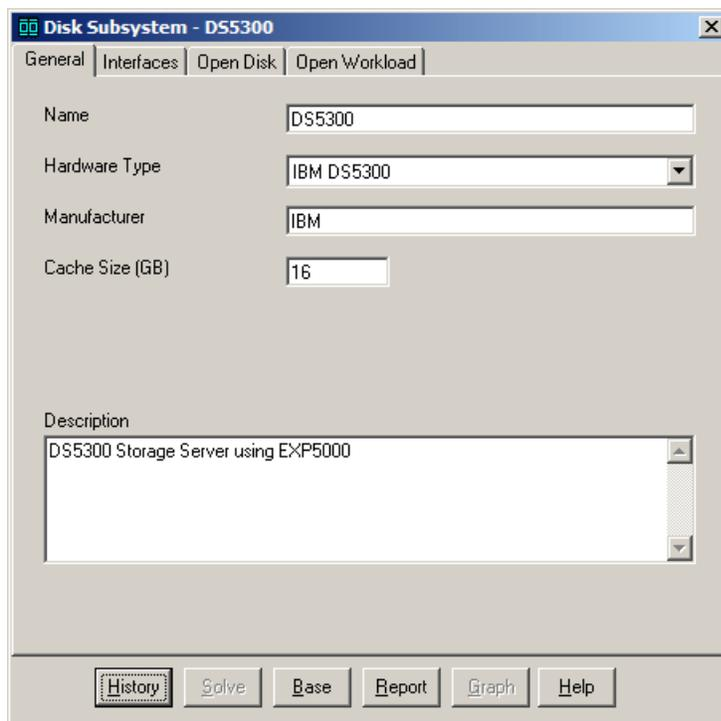

Figure 10-25 Storage subsystem General tab
- ▶ The *General* tab allows you to enter storage subsystem level configuration data, such as the brand and type of subsystem and cache size. You can rename the storage subsystem and set the appropriate type, as shown in Figure 10-25.